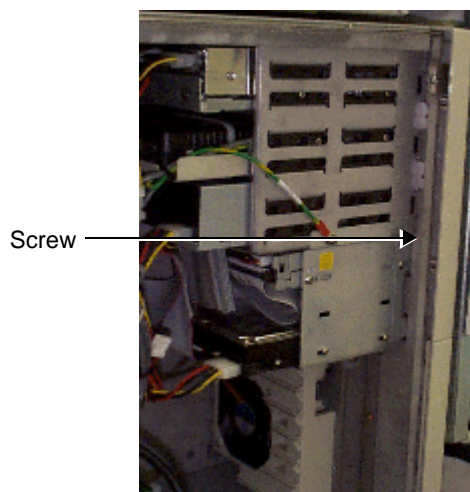

Figure 8-58 BEP1 - Front Cover Screw
- 1) Remove the screw that secures the front cover in position - see Figure 8-58 "BEP1 - Front Cover Screw" on page 8-63.
- 2) Replace and tighten the screw that secures the front cover in position - see Figure 8-58, above.